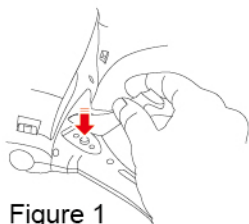

Figure 1
1. Insert the landing skids into the slot as Figure 1.